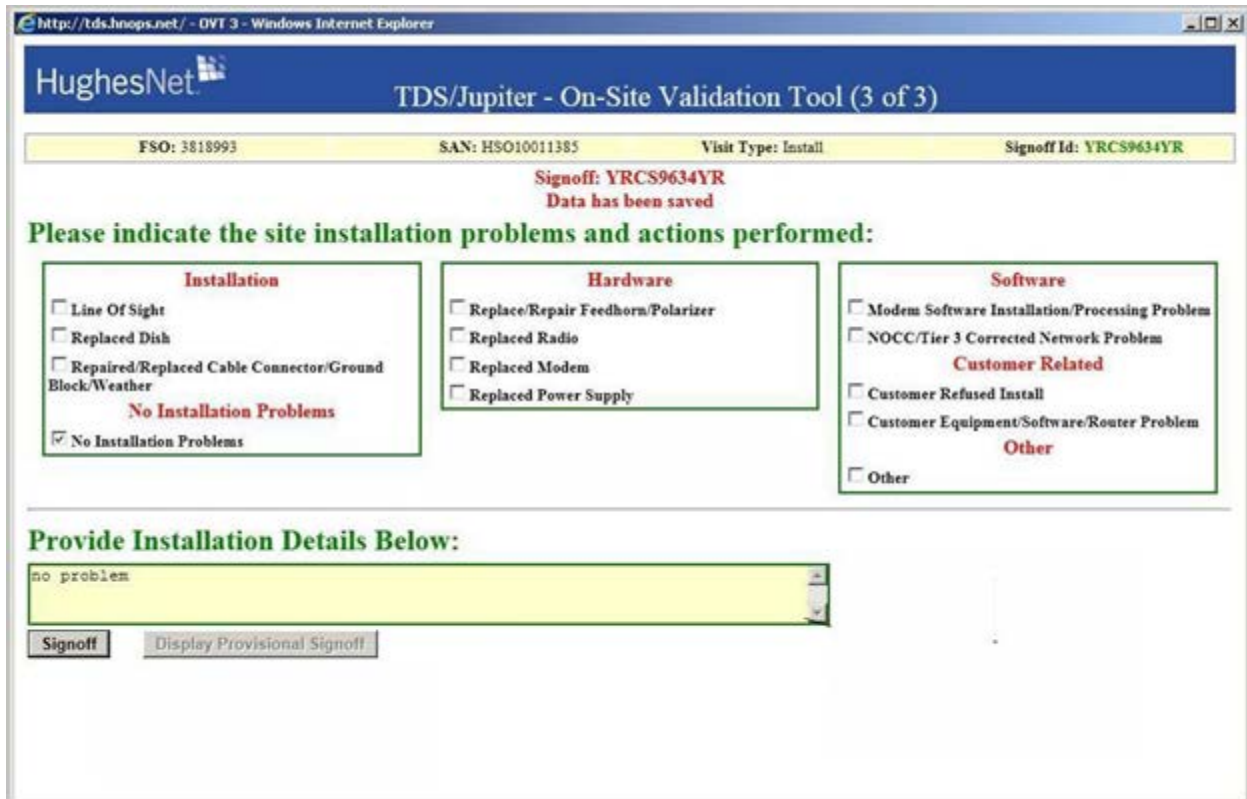

Figure 29: OVT Signoff screen
4. Click the Terminal Activation link as shown in Figure 29.